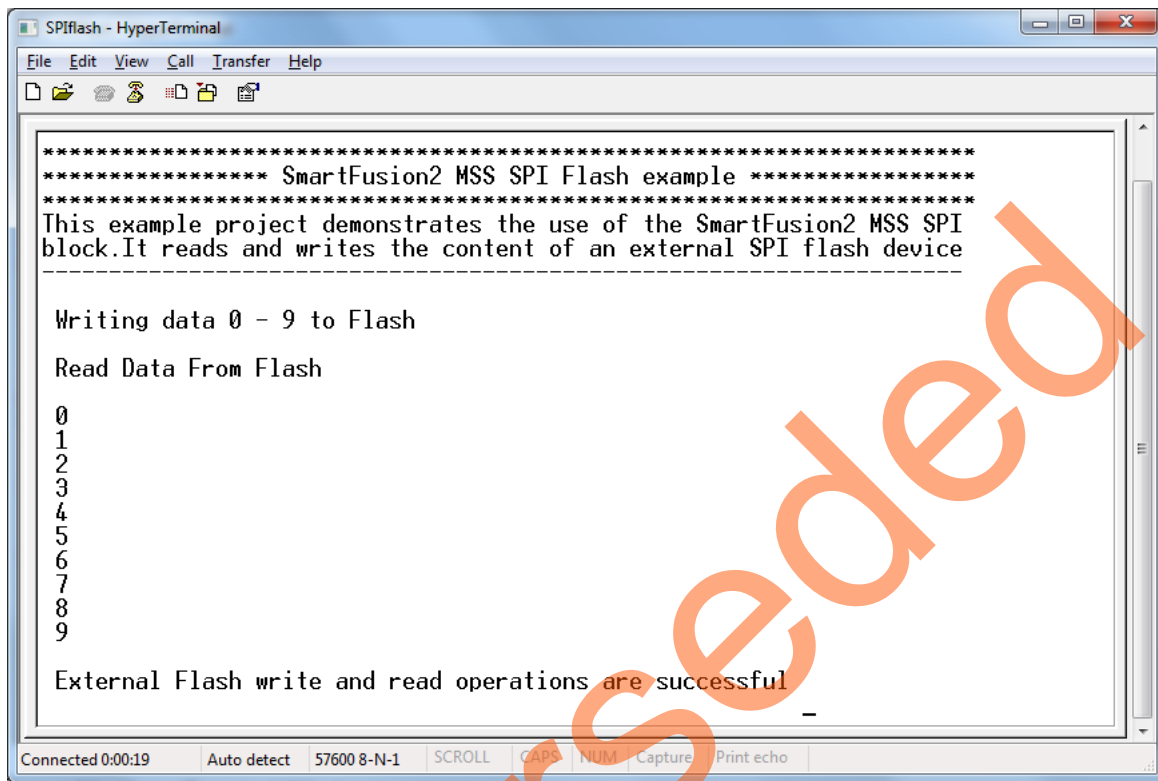

Figure 43 • HyperTerminal Window
4. On successful operation, the HyperTerminal window displays a message as **Read Data From Flash** as shown in Figure 43.